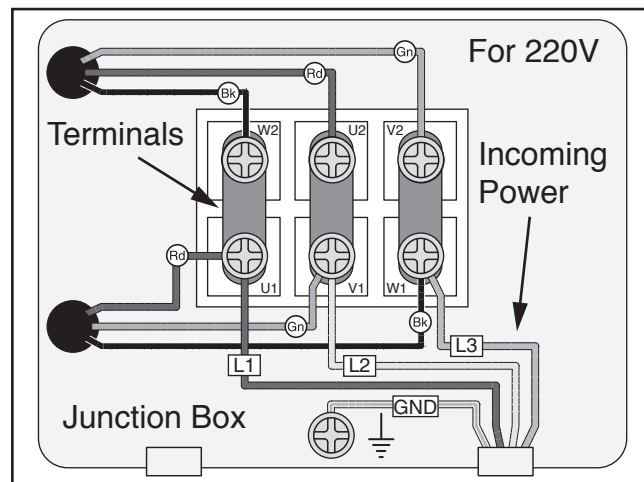

Figure 70. Vacuum pump junction box connection in delta configuration for 220V.
During next step, make sure incoming ground wire is connected to correct terminal to ensure machine will be properly grounded (see "GND" in **Figure 70**). An ungrounded or improperly grounded machine can cause electrocution if live electrical wires make contact with frame or other parts touched by operator.
5. Connect incoming power wires to terminals, as shown in **Figure 70**.